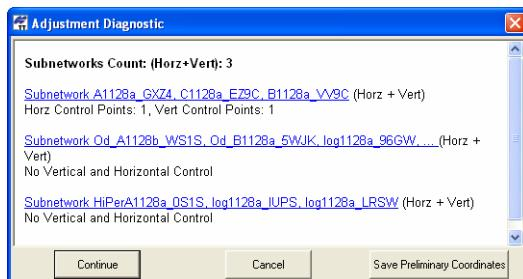

Figure 6-18. Messages After Analysis of the Net Components
- If a severe error exists, the network adjustment will stop for ALL components of the network and the ***Adjustment Diagnostic*** dialog box will display (Figure 6-18). For every component, the dialog box shows the existence/absence of horizontal and vertical control point(s).